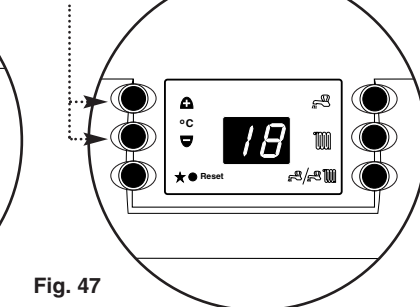

Fig. 47
4. Press the "+" and "-" Temperature Control Buttons at the same time for 5 seconds. The display will show "18 or 10" (Fig. 47).